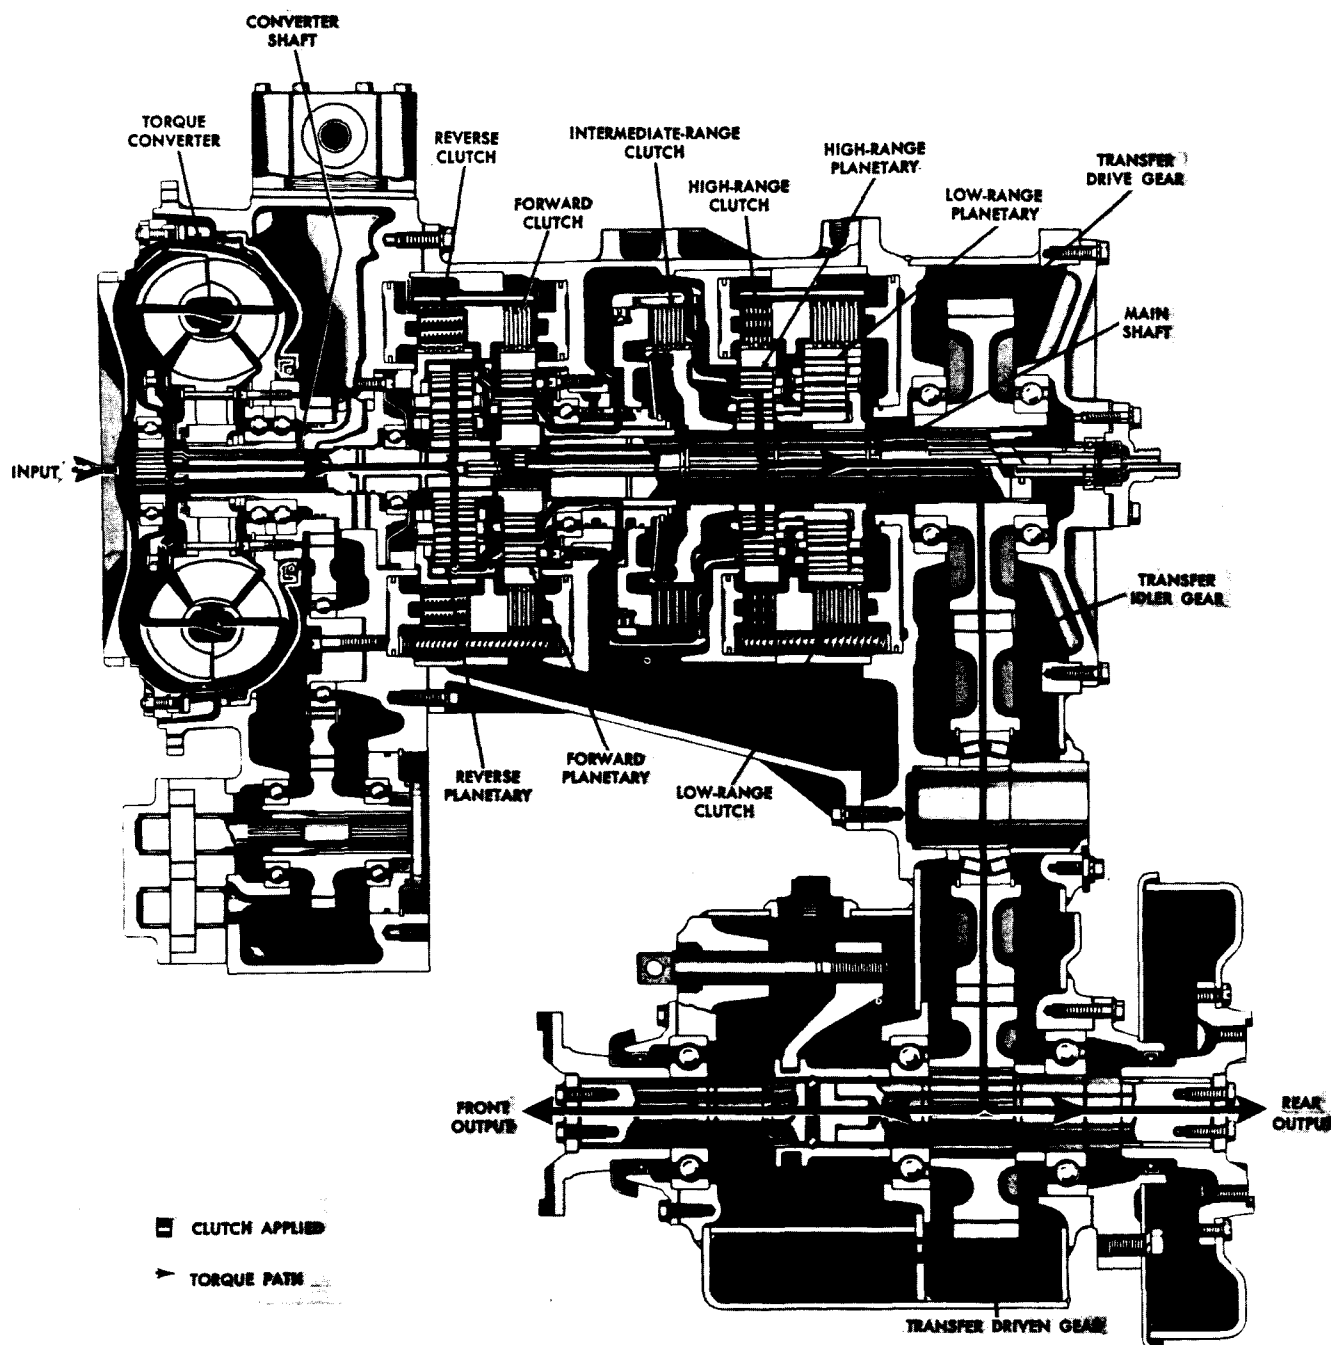

Fig. II-7. Reverse, high-range—torque path (CRT 3331-1)
29. REVERSE, HIGH RANGE — TORQUE PATH (fig. II-7)